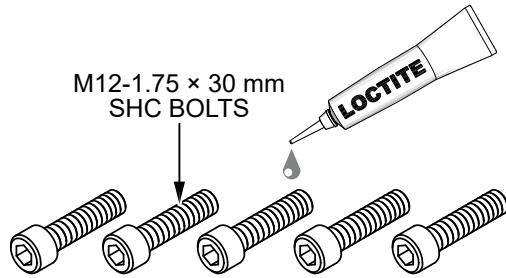

Figure 76. Apply Loctite 242 To New Bolts
5. Apply Loctite Blue 242 to the threads on five new M12-1.75 × 30 mm SHC bolts. See Figure 76.